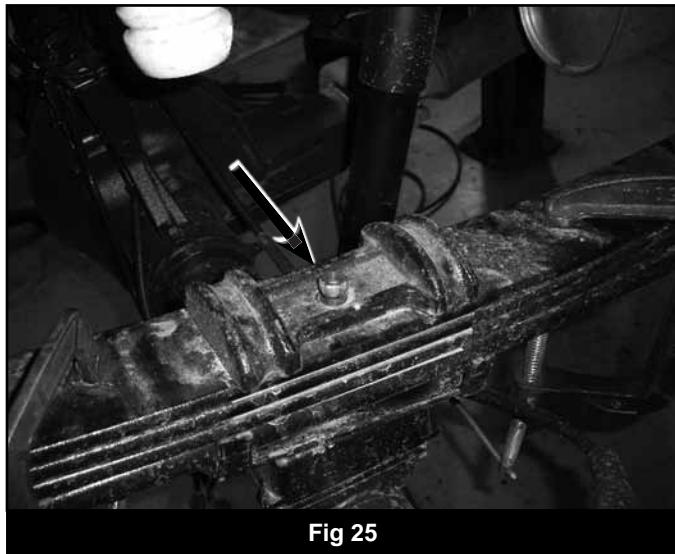

Fig 25
63. Disconnect the passenger's side spring u-bolts. Using two C-Clamps, clamp the leaf spring on each side of the top u-bolt plate. (Fig 25) Remove the center pin nut and remove the u-bolt plate. Reinstall the center pin nut and torque to 40 ft-lbs. The u-bolts, top plate and bottom plate will not be reused.